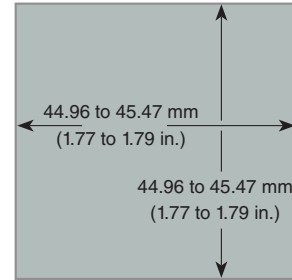

figure 1.
1. Make the panel cutout (see figure 1).